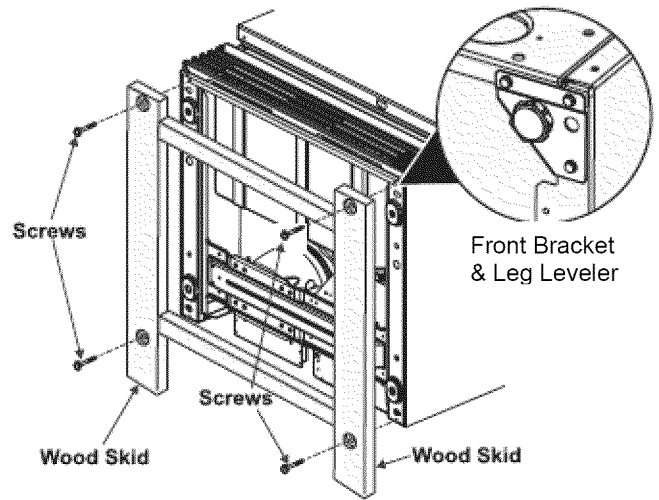
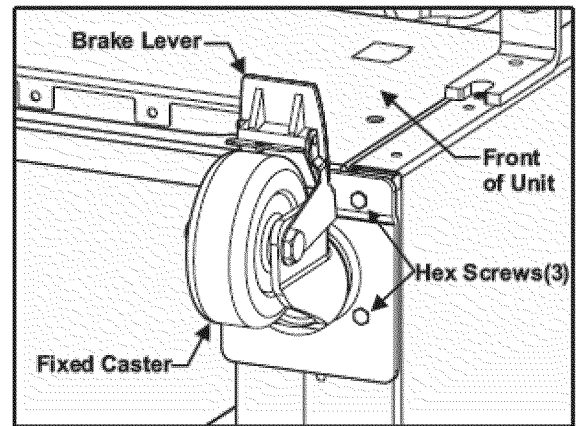

Figure 1
Figure 3
- Using a 3/8" socket wrench remove four screws holding the wood skid to the bottom of the unit. Discard the wood skid and screws. See Figure 1.
- Remove and discard the two front brackets with leg leveler using a 5/16" socket wrench. See Figure 1.
- Locate and align fixed caster (with brake lever facing front of unit - see Figure 3) over the same mounting holes from front brackets in Figure 1 using six hex screws (3 for each caster). Secure the screws snug using a 3/8" open end wrench. Repeat the same procedure for opposite corner. **DO NOT OVERTIGHTEN.**